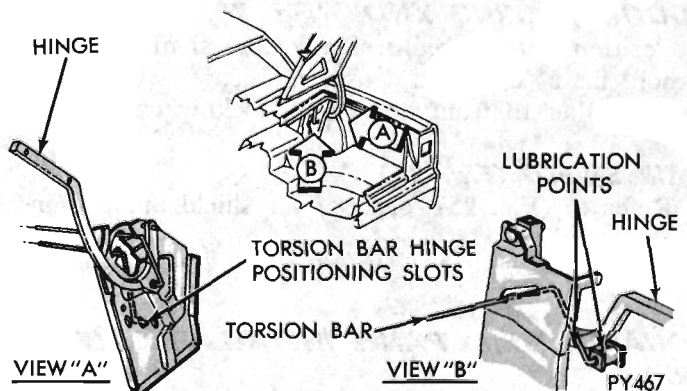

Fig. 33 - Deck Lid Torsion Bar Adjustment
- (1) Remove torsion bar (under spring load) from adjustable slot (Fig. 33).
- (2) Unwind torsion bar and remove from support bracket.
- (3) Push torsion bar out of roller in hinge arm and remove from hinge support.